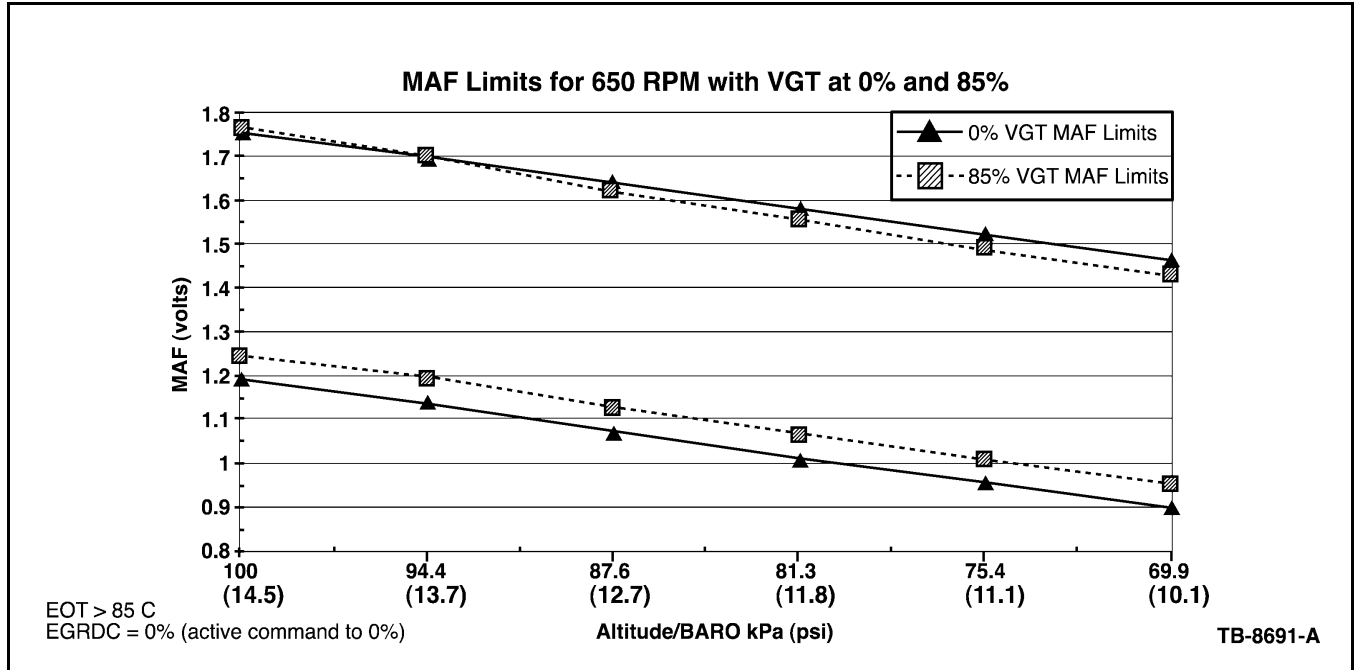

Figure 1 - Article 09-15-6
- c. Compare the voltage to Figures 1 and 2. Reading is outside of MAF limits and/or recorded value is lower than limits, possible causes are:
- (1) MAF sensor.
- (2) Air leak between MAF sensor and turbo.
- (3) Aftermarket Air Intake system and/or Air Filter.
- (4) Leaking EGR O-ring or gasket.
- (5) Exhaust restriction.
- d. Compare the voltage to Figures 1 and 2. Recorded value is higher than limits, possible causes are:
- (2) Air Leak in the charge air cooler (CAC) system.
- (3) Dirty Air Filter.
- (4) Aftermarket Air Intake System and/or Air Filter.